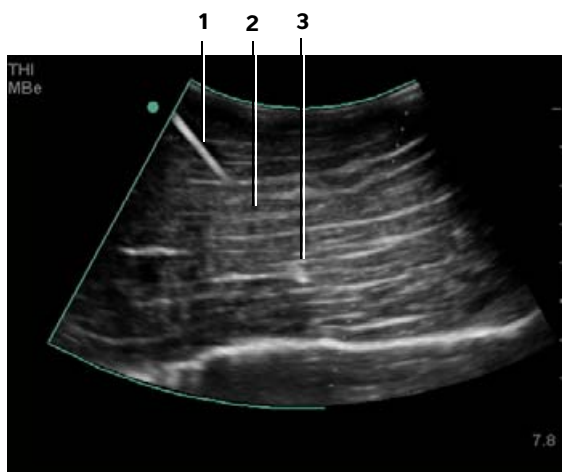

Figure 2 With a curved array transducer, only segments of the needle shaft may show:
- Note that the beam divergence of a curved array transducer may prevent a segment of the needle shaft from showing in the image. (See Figure 2 on page 32.) The needle tip may not show.
For curved array transducers, MBe can help identify the direction of the needle, although only segments of the needle shaft may show in the image. (See Figure 2 on page 32.) Use movement and fluid injection to help verify the needle-tip location.